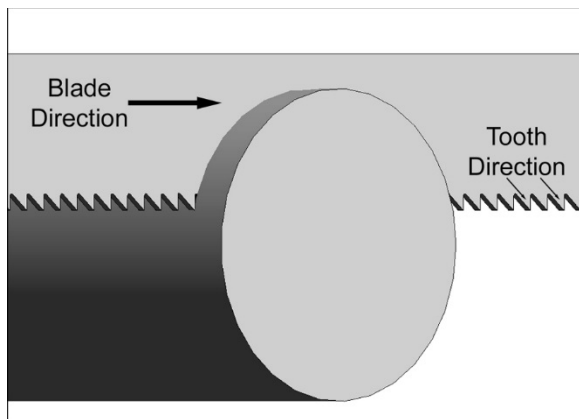

Figure 8-8
- Install new blade between blade guide assemblies and around each wheel. Make sure blade teeth are pointing in proper direction. See Figure 8-8.